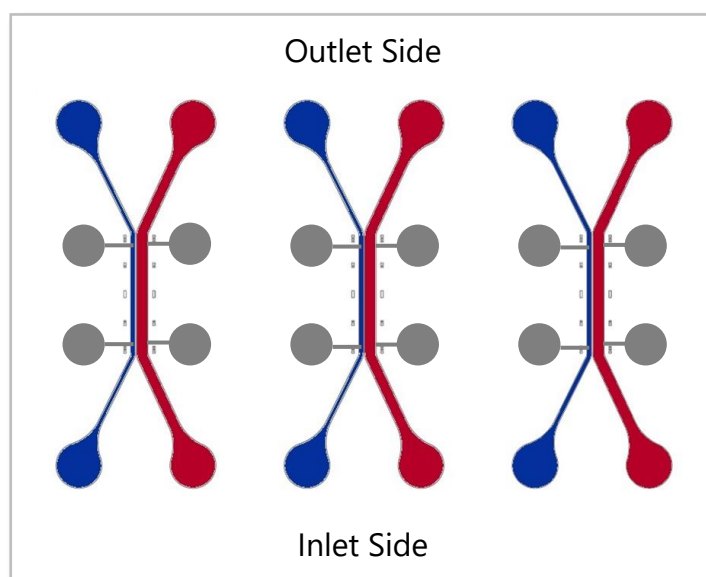

Fig. 1 SynTEER Embedded Electrodes Chip Schematic
Figure 1 shows a schematic of the SynTEER embedded electrodes chip required for capturing TEER (Z) measurement across the cell barrier. The SynTEER chip consists of 3 model units, each with a vascular channel (blue) and tissue channel (red) separated by a porous barrier. Electrodes running through the channels are connected to the Cell Impedance Analyzer through circular contact pads (gray).